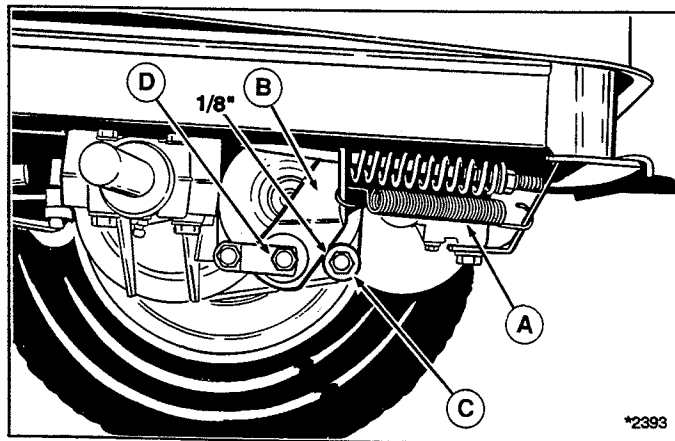

Figure 26. Brake Adjustment (Gear Model shown)
2. Remove the tension spring (A, figure 26).
3. Move the brake cam (B) forward. On gear models there should be a 1/8" gap between the cam (B) and the spacer (C). On hydro models, there should be 1/8" gap between the cam (B) and the transaxle cam stop (similar to location of spacer (C) as shown in figure 26).
4. To adjust clearance, turn the nut (D) clockwise to tighten nut and decrease gap. Turn nut counterclockwise to loosen nut to increase gap.